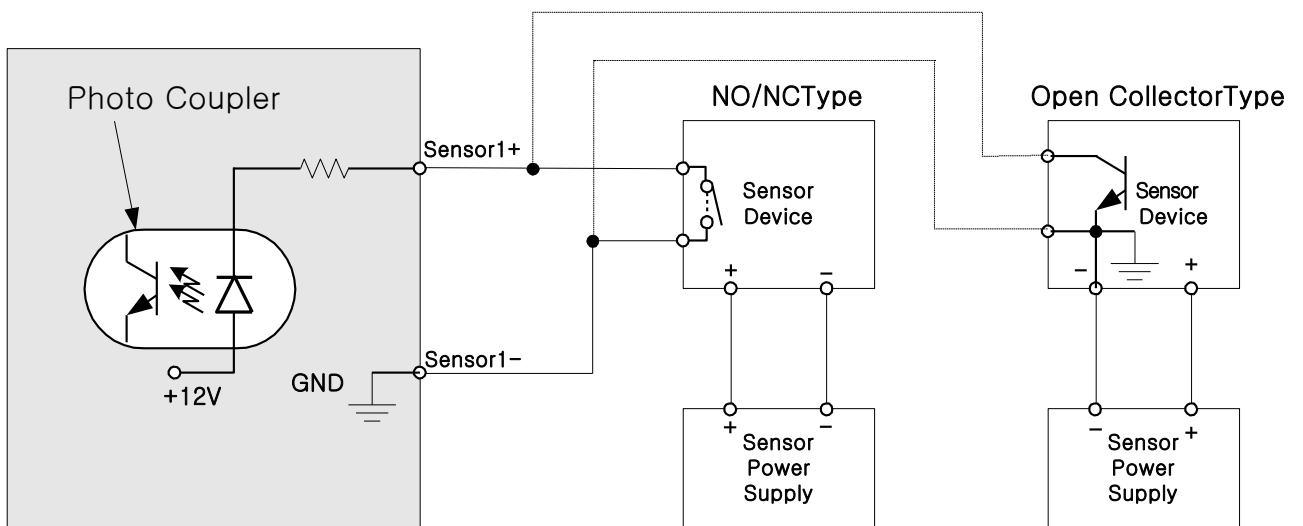

Fig. 6-4 Connection of Sensor to Veilux VPIP-D110X / VPIPI-D110X
3.1 Connection of Sensor (Fig.6-4)